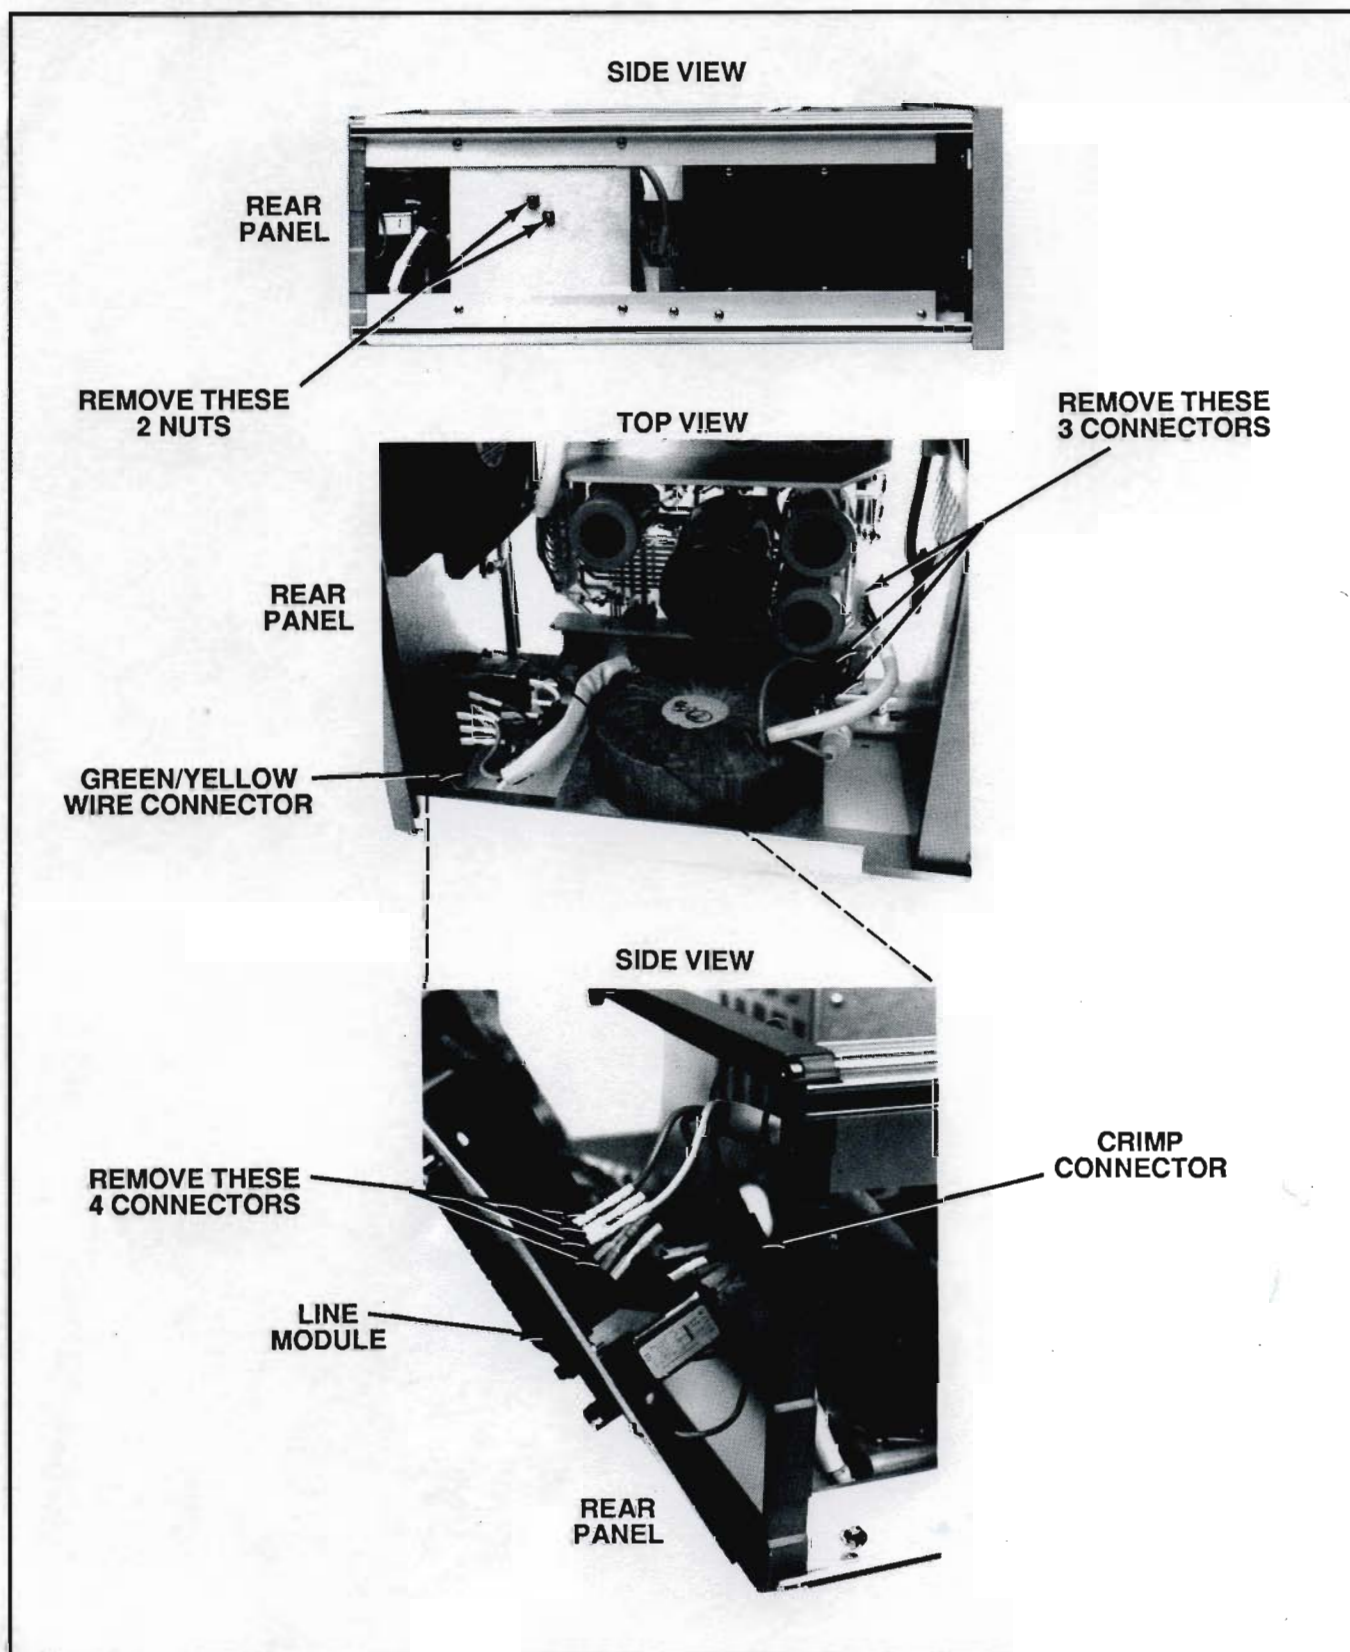

Figure 4-8. Replacing the Toroidal Transformer Assembly
The toroidal transformer assembly consists of the toroidal transformer and the cables and connectors shown in Figure 4-8.
3. Pull apart the ends of the red crimp connector and pull out the remaining seven connectors shown in Figure 4-8.